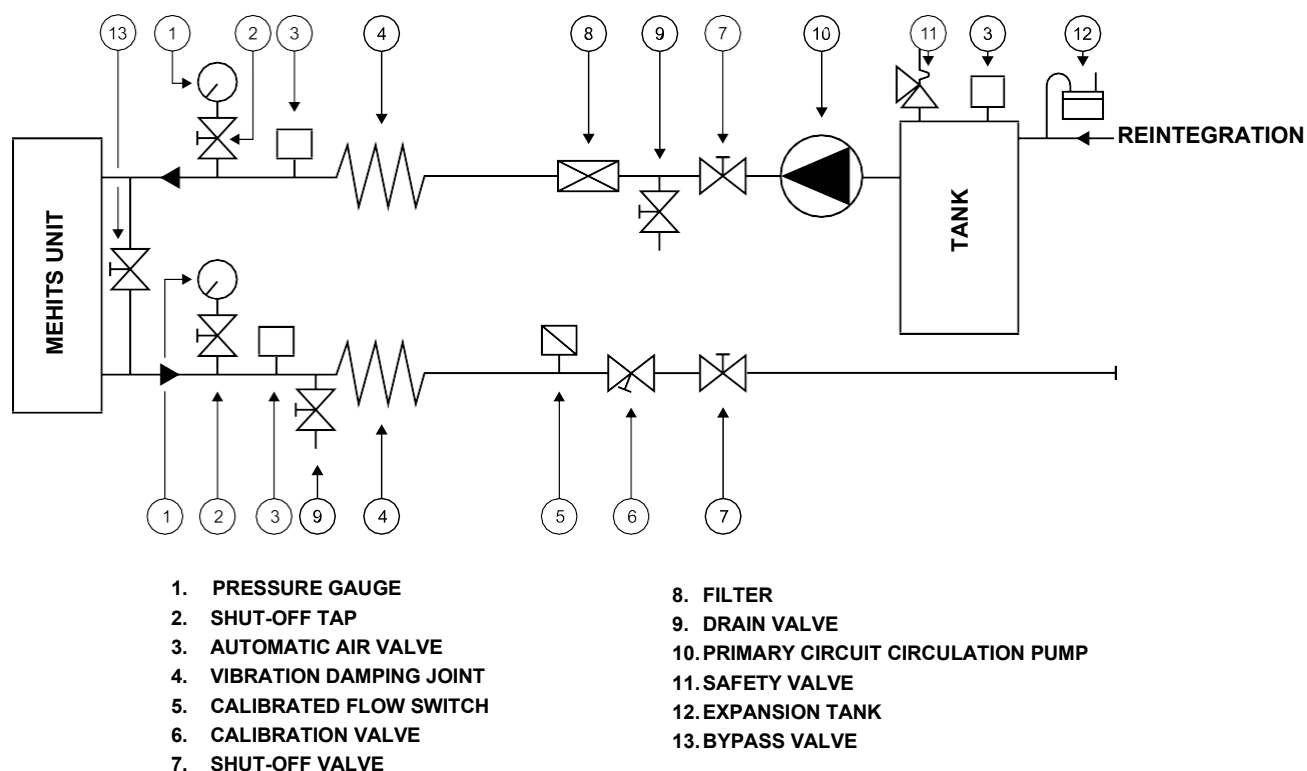

Figure 7.1: Evaporator/recovery unit water circuit diagram.
The evaporator and the recovery unit must be installed on the water circuit of the heat exchangers. Particular attention must be paid to the correct positioning of the following components (fig. 7.1):
- All other equipment listed in fig. 7.1